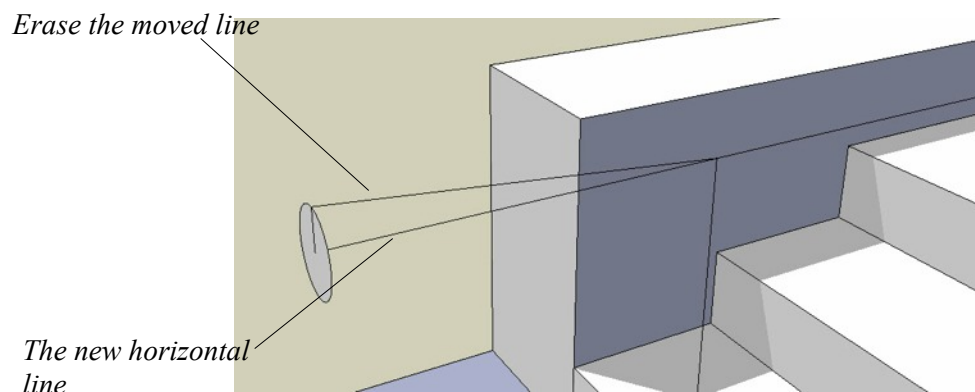

Figure 75. The line to be erased with the new line drawn in position
- Use the **Eraser** to delete this line as shown in Figure 75 and use **Draw/Line** to draw another line from the centre of the circle to the end of the vertical line.